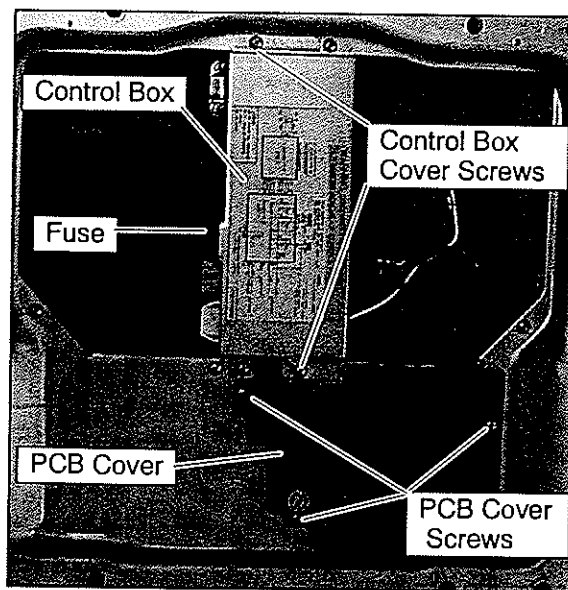
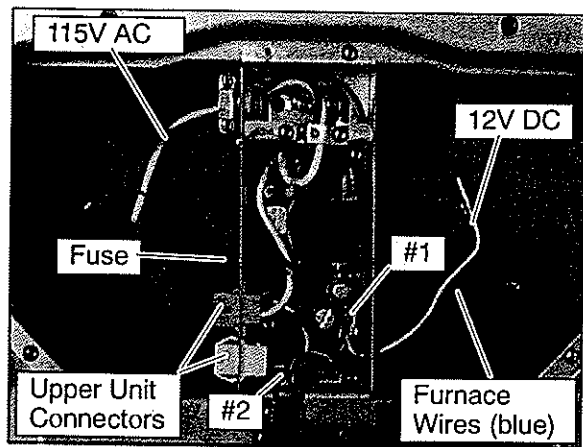

Figure 3-11 Control Box & PCB Cover
Figure 3-12 Control Box Assembly - Ducted
To remove the control box assembly (Figure 3-11 & Figure 3-12) do the following:
- b. Disconnect 115 volt (AC) and 12 volt (DC) power wires.
- c. Remove two screws securing control box cover to control box assembly. See Figure 3-11.
- g. Unplug DC power plug #1 (red/yellow/black wires) See Figure 3-12
- h. Unplug relay signal plug #2(brown/red/orange/ yellow wires). See Figure 3-12
- h. Unplug power wiring plug #1. Figure 3-12
- i. Unplug signal wiring plug #2. Figure 3-12
To remove the fuse (Figure 3-11) do the following: